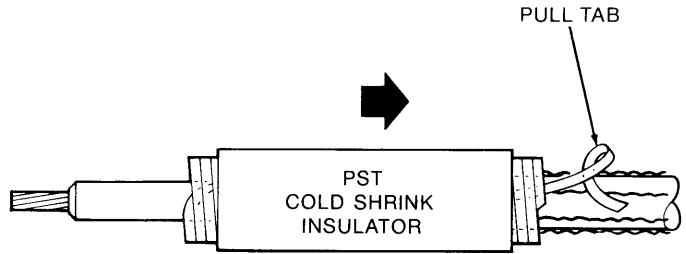

Figure 2
1. Slide **longer** PST Cold Shrink insulator onto cable "X" jacket and the shorter PST onto cable "Y" jacket directing pull tabs away from cable ends as shown in Figure 2.